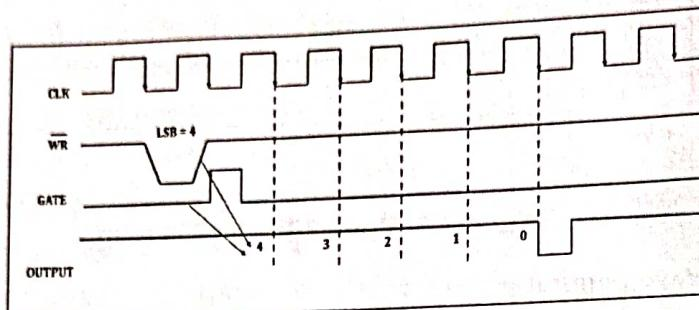

Figure 4.11: Mode 5 Timing Diagram.
5. Figure 4.11 shows the Mode 5 Timing Diagram.